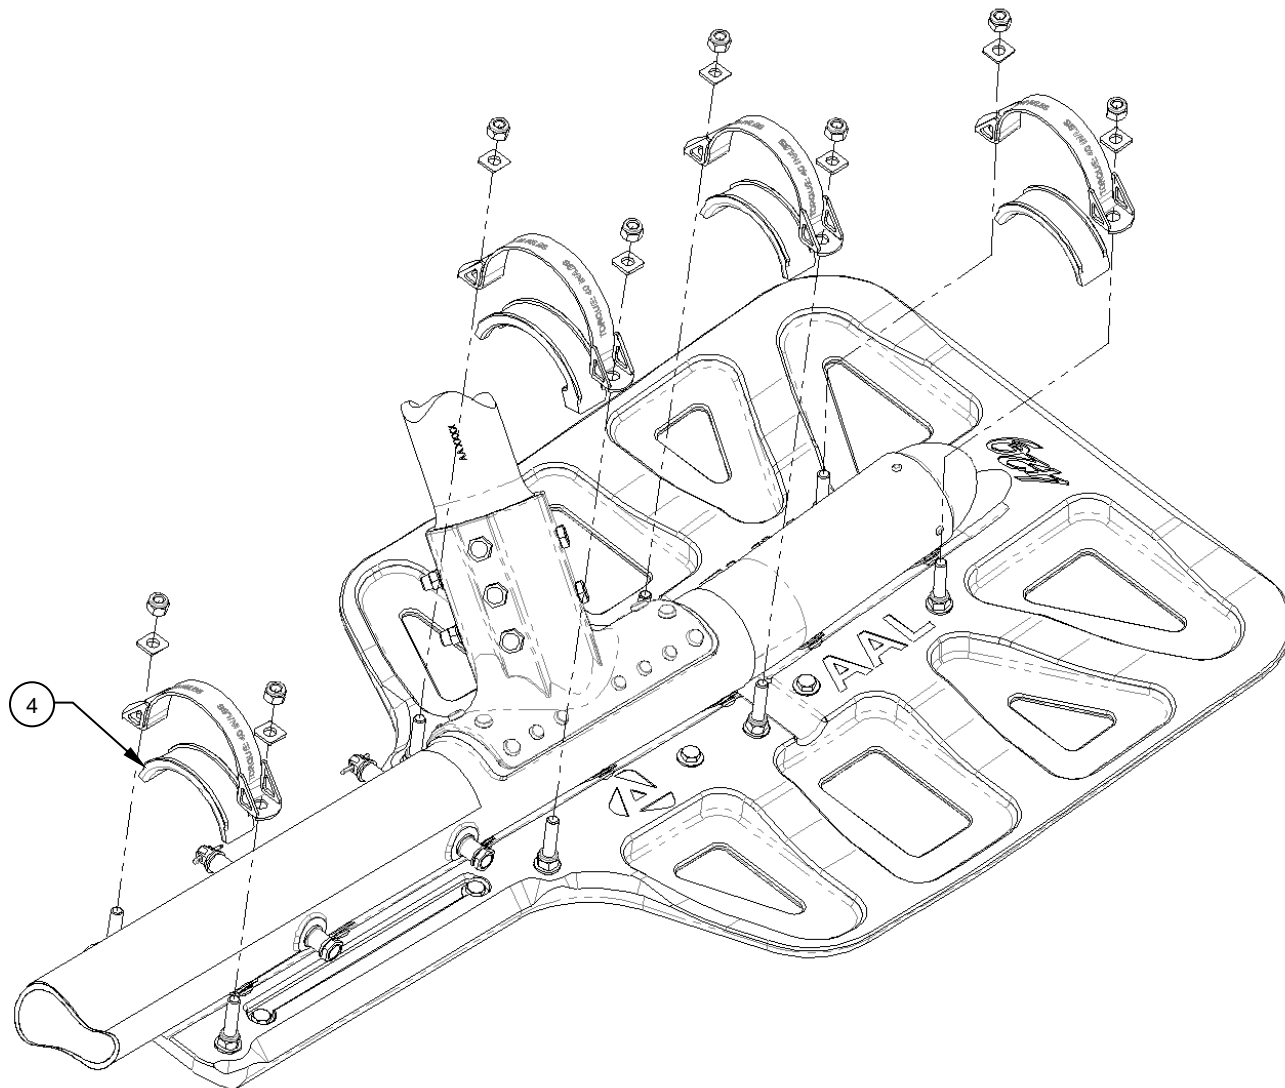

Figure 1
1. Install the Bear Paw Assy, Kit (Item 1) first as per AAL-490-015-701 Section 3. Reference Figure 1.
2. One variation of the standard install is to be made. Reference page 11 of 20 in AAL-490-015-701 Section 3, remove the Cap, Detail (Item 2) and replace it with Cap, Detail (Item 4). Reference Figure 1.